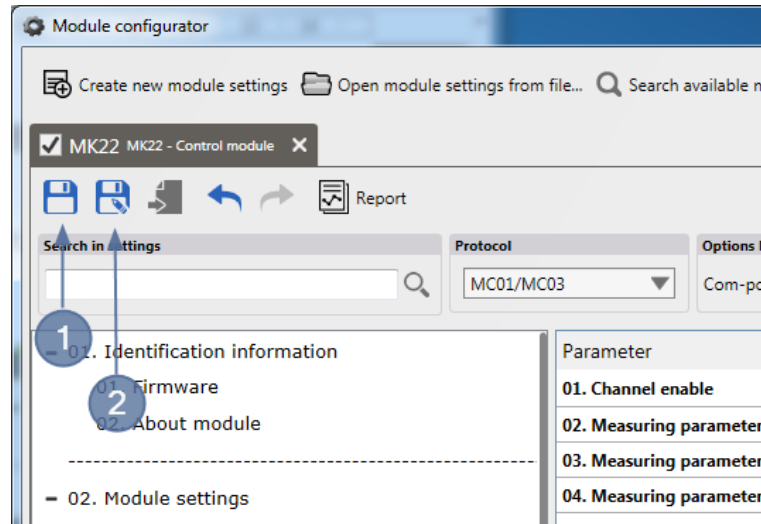

Figure 13 - Save menu
1) to save changes made into open settings file, press **Save** button (Figure 13, item 1) and go to step 3. To save settings file with another name, press **Save as** button (Figure 13, item 2) and go to step 2.